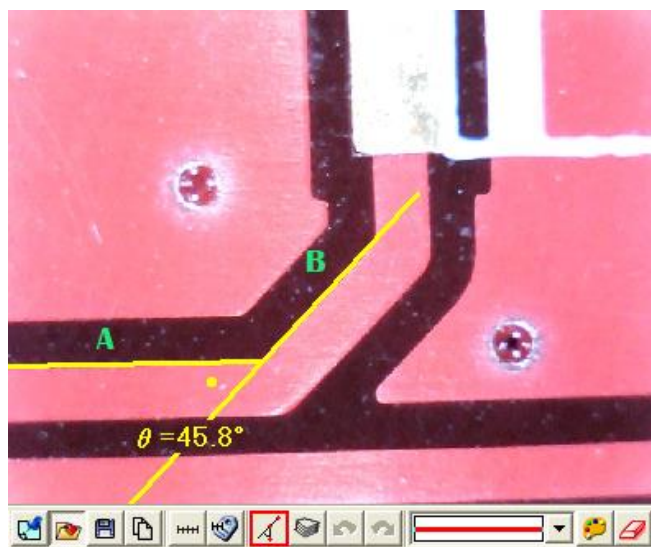

Fig 5-75 3 Points Chamfer
(12) 3 Points Chamfer: Measure chamfer and use . Draw first line on the angle (see line A) and press the left mouse button to drag a line on the other side of the angle (See line B) to calculate the chamfer. See Fig 5-75. There is a small dot inside the chamfer and shows 45.8°.